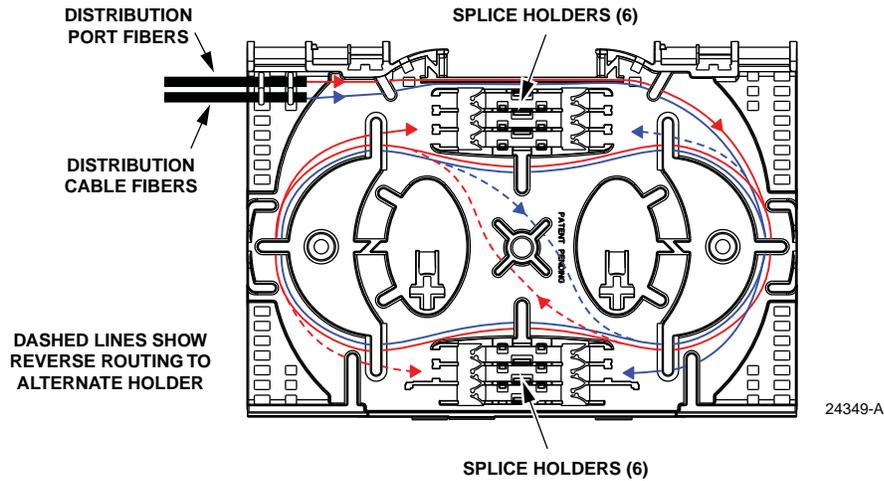
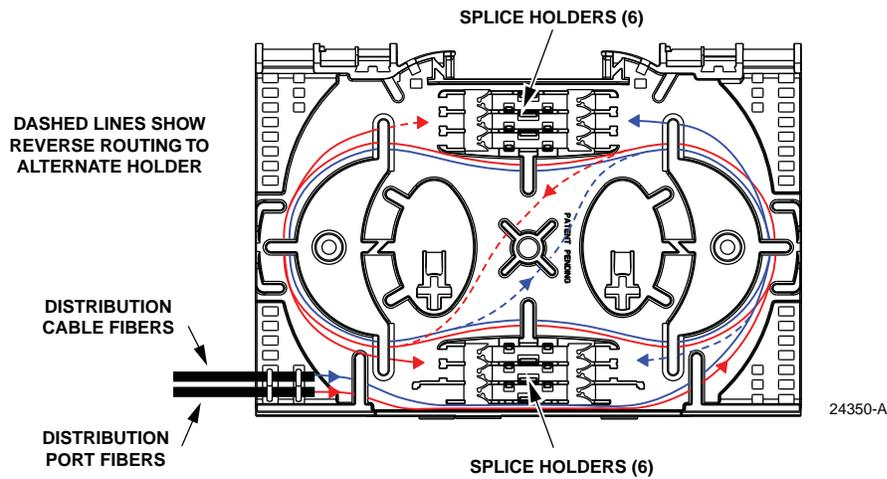

Figure 35. Splicing Stranded Distribution Cable - Top Mounted Trays
Figure 36. Splicing Stranded Distribution Cable - Bottom Mounted Trays
- As each splice is completed, adjust and route the individual fibers within the splice tray. Refer to Figure 35 for top-mounted splice trays and Figure 36 for bottom-mounted splice trays.